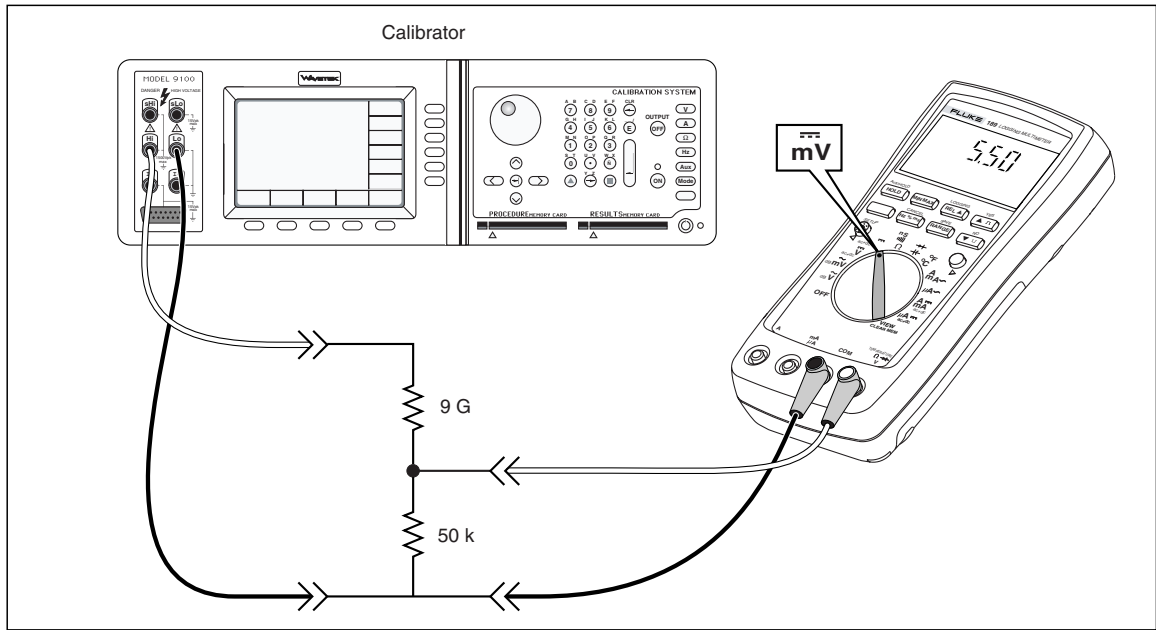

Figure 6. 9-GΩ Resistor Verification
2. Connect the calibrator and UUT to the resistor divider as shown in Figure 6.